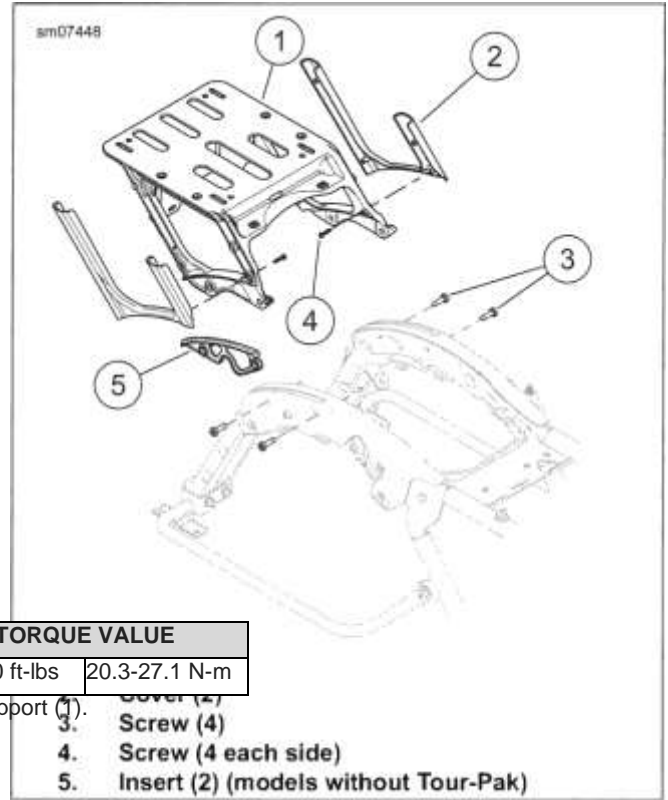

Figure 3-189. Tour-Pak Support
1. See Figure 3-189. Remove harness connectors from anchors on support.
2. Remove two screws (3) from each side.
1. See Figure 3-189. Install Tour-pak support (1).
2. Install screws (3). Tighten.